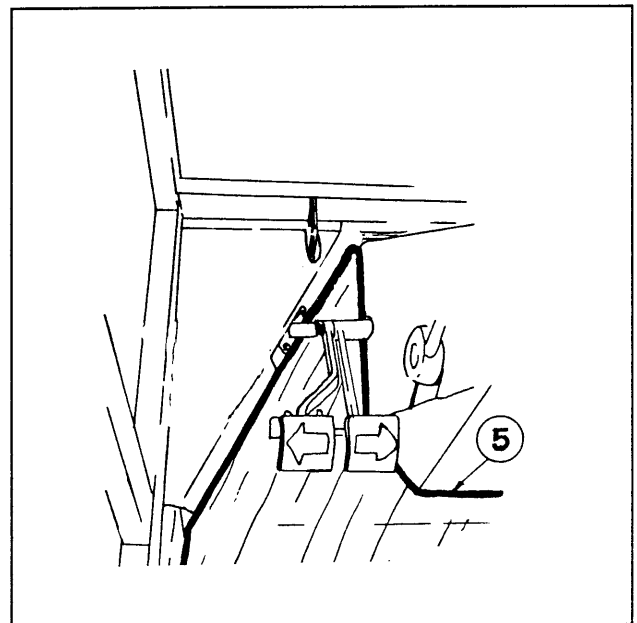

Figure 9
13. Take the 33"x43" piece of floormat (5) and position it against the operator foot platform, around the steering tower. Cut the floormat to fit snugly around all pedals, controls, and openings. (see Figure 9)